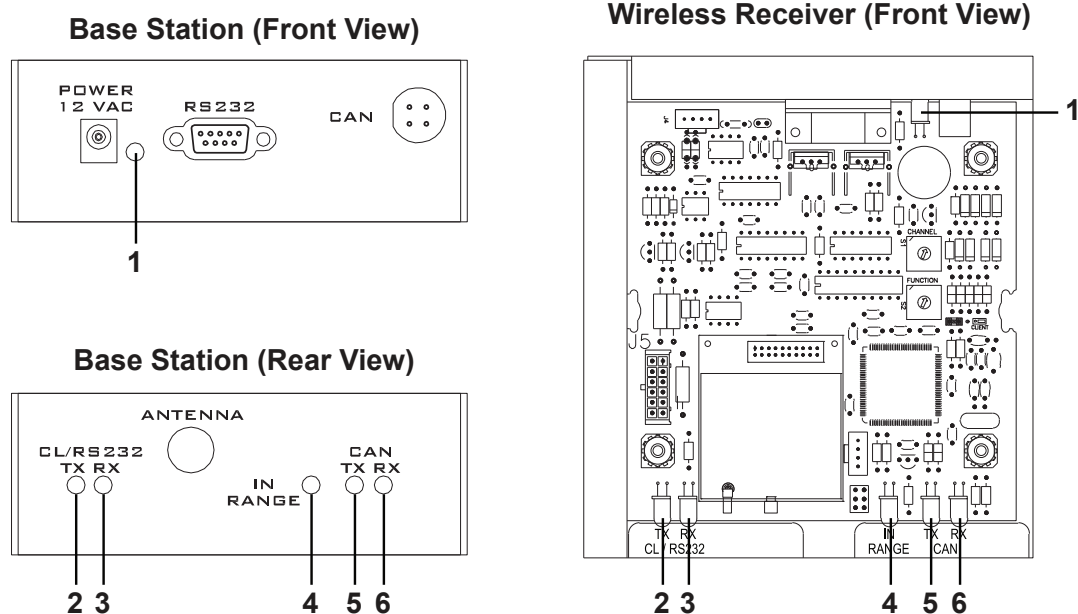

Figure 10: Wireless Base Station LEDs
Two server Base Stations cannot be powered up in the same area with the same channel setting, or they will interfere with each other. To avoid this, on power-up the server Base Station checks to see if there are any other servers located nearby. If another server is detected, the "IN RANGE" LED (**Figure 10**) will flash quickly to indicate interference, and continue to flash until the channel is changed or the conflicting Base Station is turned off.
When a Base Station is synchronized to a Sync Group, the “IN RANGE” LED (**Figure 10**) will flash briefly approximately every 5 seconds with the number of times flashed corresponding to the sync group: 1 = Channel 0, 2 = Channel 1, 3 = Channel 6, 4 = Channel 11 (B).
The wireless Base Station circuit board includes several light-emitting diodes (LEDs) for diagnostic purposes, as shown in **Figure 10** and described in the table that follows.